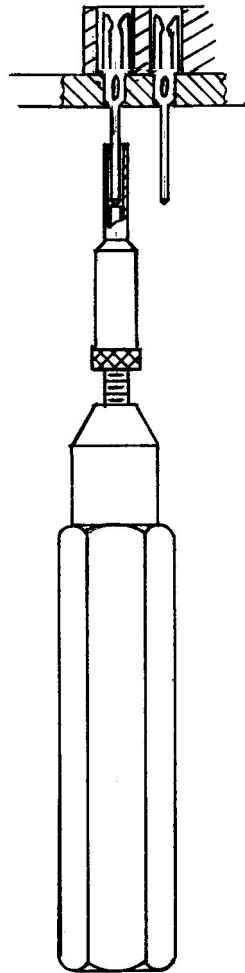

Figure 1
2.1 This is an adjustable tool (see Figure 1). Select proper length of pin for damaged contact from Table 1. Insert pin into pin holder. Drive into threaded pin. Adjust the depth of the extraction tool by placing it over an assembled contact. Loosen the locking nut, adjust it, and tighten the lock nut.
2.3.2 Slide the tip of the tool over the tail of the damaged contact until bottomed (see Figure 1).